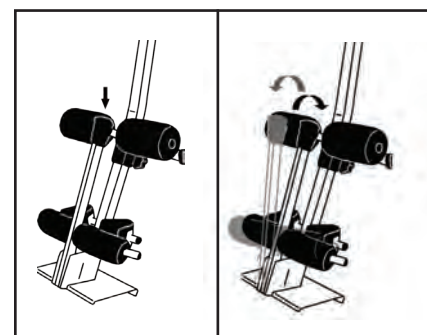

Figure 5
- Push the handle slightly inward, allowing the spring locking system inside the Gravity Lock Housing to disengage, then pull out to open. (Figure 5)